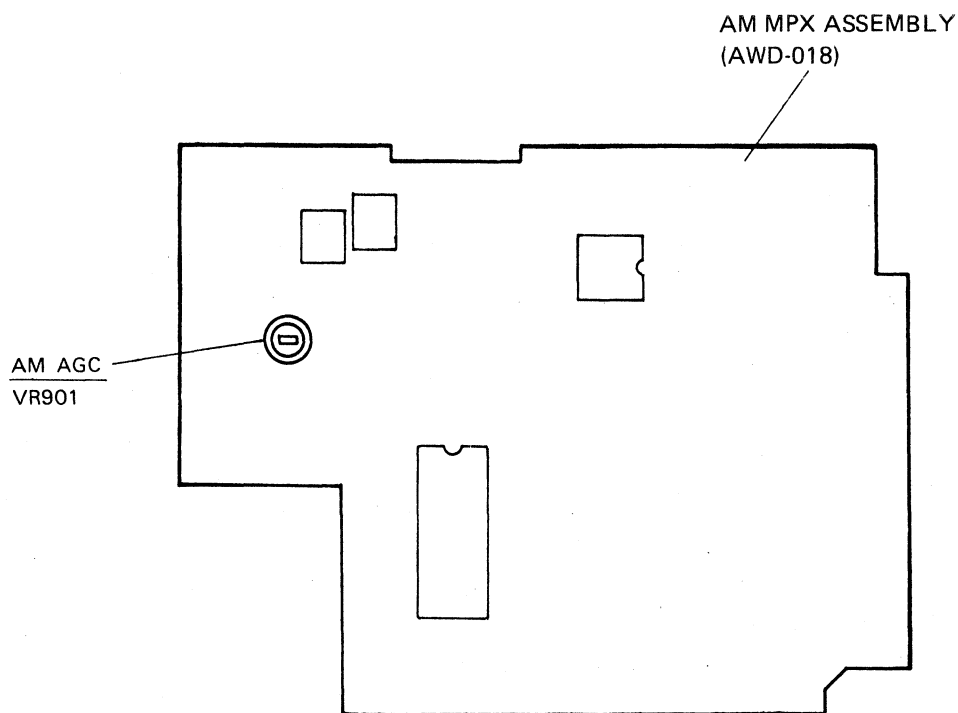

Fig.5-1 Adjustment position
*VR901 is in AM MPX assembly (AWD-018) (See Fig. 5-1)